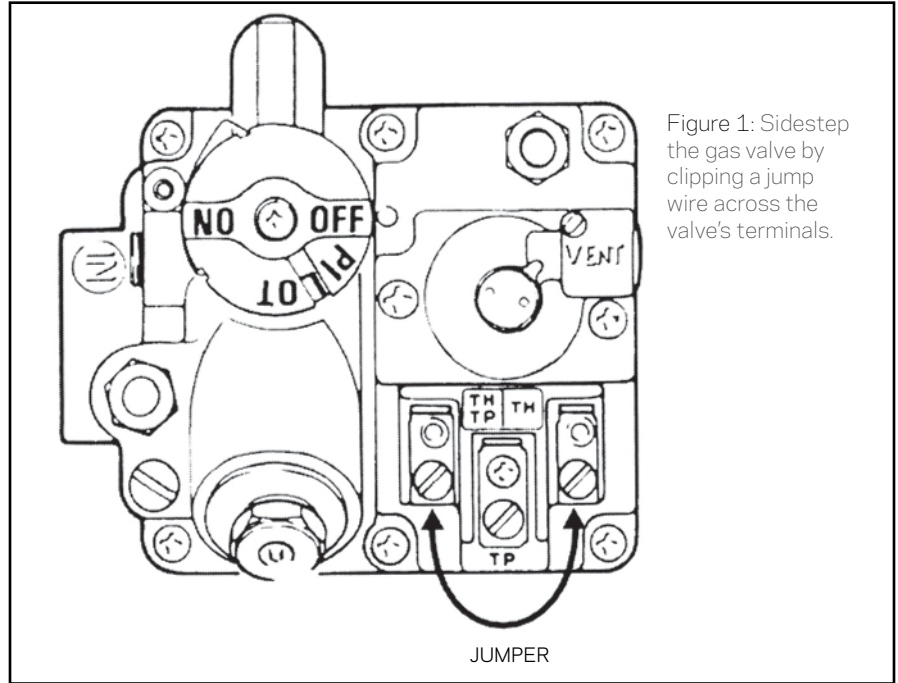

Figure 1: Sidestep the gas valve by clipping a jump wire across the valve's terminals.
1. The first step along this diagnostic line involves sidestepping the gas valve by clipping a jump wire across the valve's terminals (see Figure 1). This enables you to bypass the chain of control devices wired along the same circuit as the valve and to check the performance of the gas valve and pilot generator. Note: After troubleshooting any component, always remember to remove the jump wire!